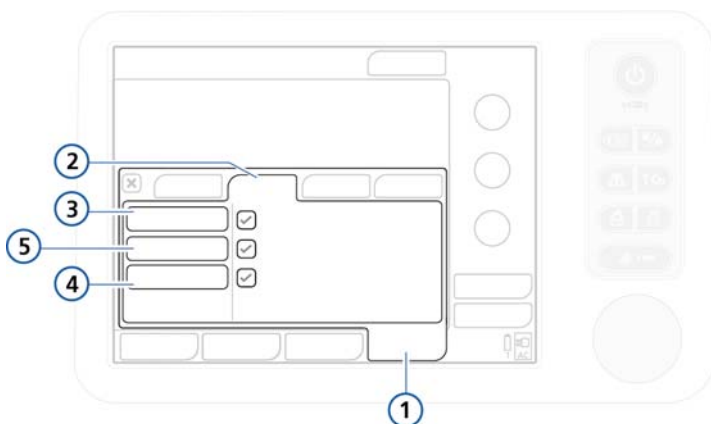

Figure 3-2. Tests & calib window
2. Activate **Tightness test** from the Tests & calib window (Figure 3-2).
2. Activate **Flow Sensor** from the Tests & calib window (Figure 3-2).